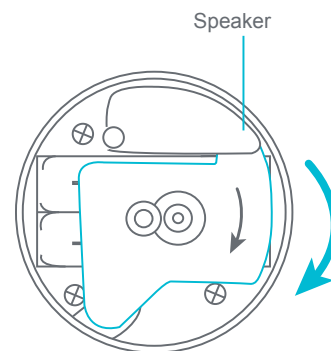
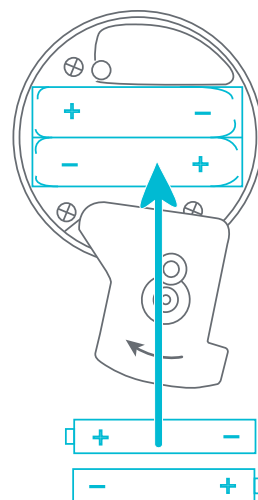

Fig. 5c
Fig. 5d
- Refer to the diagram. The Tumble 'n Chase Helix Roller Toy requires (2) AAA batteries. Reference (Fig. 5c) for battery installation.
- Slide the white battery cover down (Fig. 5c) to install batteries as shown (Fig. 5d).